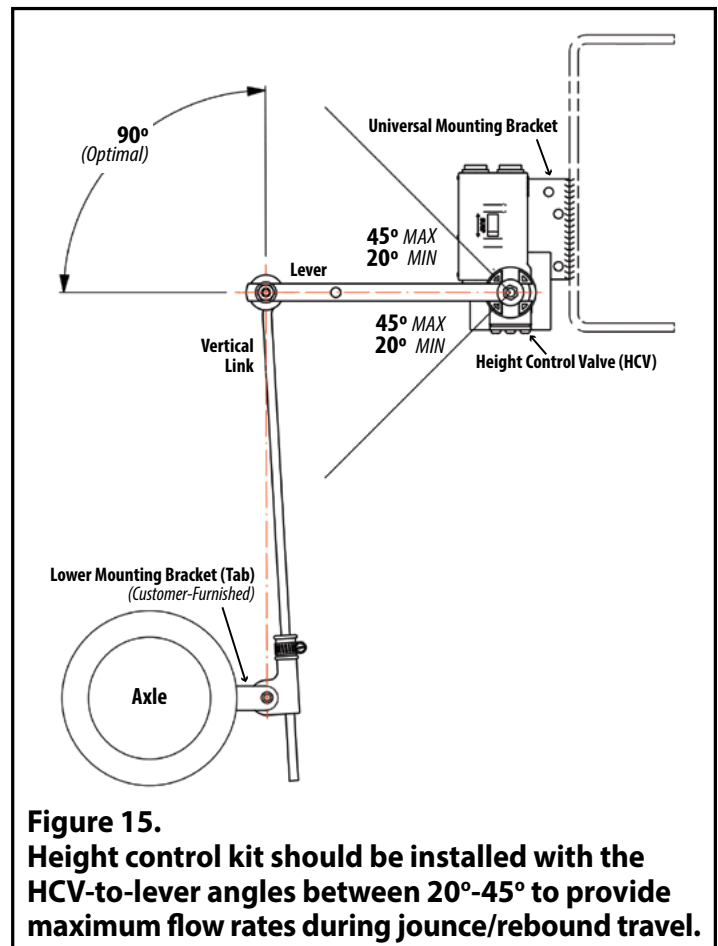

Figure 15. Height control kit should be installed with the HCV-to-lever angles between 20°-45° to provide maximum flow rates during jounce/rebound travel.
5. Set lever to neutral (center) position. Slide vertical link into "P"-Connector. Slide rod until grommet reaches the same height as the lever. Attach vertical link to lever with the upper pin. Torque to 60-80 in-lbs. Tighten P-Connector band clamp to hold the rod in place. Cut and remove excess rod, leaving about one-inch of rod beneath the P-Connector (Fig 15).